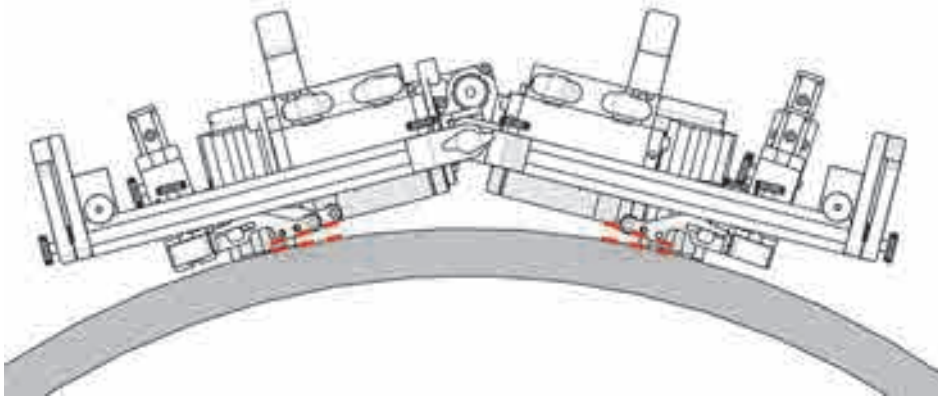

Figure 4-118 Correct probe holder longitudinal adjustment
4. Ensure the probe holder arms are parallel to the scan surface (see Figure 4-118 on page 181 and “Probe Holder Longitudinal Adjustment” on page 142 for additional details).